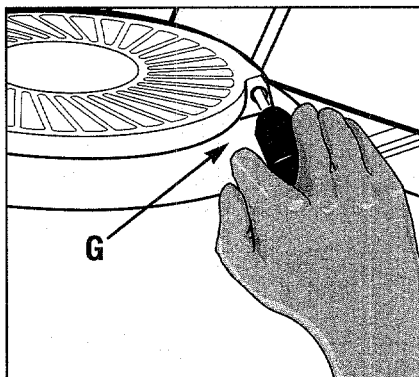

Figure 4-3: Engine recoil starter.
- B. Grasp rope handle (G, Figure 4-3) and pull slowly until rope pulls slightly harder. Let rope rewind slowly. Then pull rope with a rapid, full arm stroke. Let rope return slowly. If engine fails to start after three pulls, repeat instructions starting with Step 2 (try setting throttle at fast setting).